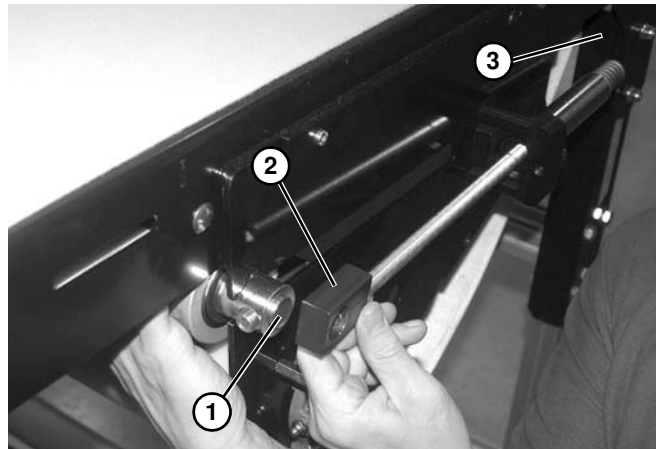

Figure 79
10. Push shaft (**Figure 79, item 1**) through block (**Figure 79, item 2**), and slide block towards base end (**Figure 79, item 3**) of tensioner.